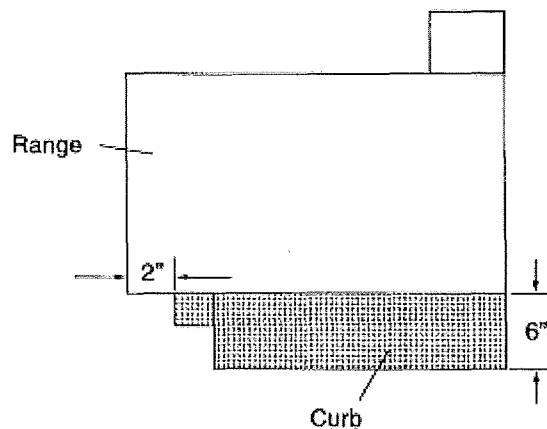

Fig. 2-3
- b. Position oven range on curb as shown in Figure 2-3.
- a. Existing curb must be ventilated as shown on metal curb in Figure 2-3. The opening for circulation must equal 8 square ft.(0.74 square meters)